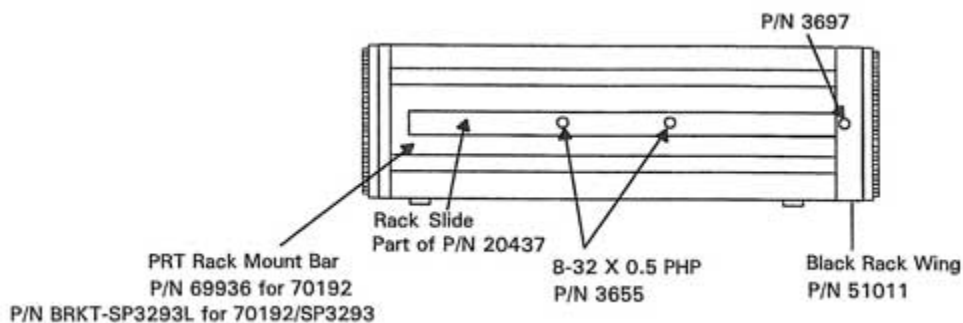

Figure 6-4 Mounting Rack Slide and Black Rack Wing
3. Remove the Inner Rack Slide from each of the Rack Mounts. Attach the Black Rack Wing and the rack slide to the PRT73 Rack Mount Bar. Refer to figure 6-4.